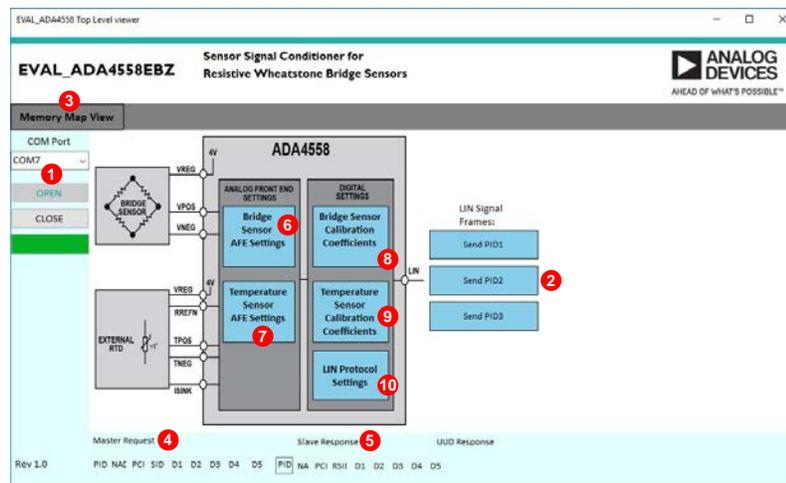

Figure 14. Evaluation Software Main Window
3. Set the **COM Port** setting to match the EVAL-ADA4558EBZ COM port and click **OPEN**. The main window then appears (see Label 1 in Figure 14).
The main window of the software (see Figure 14) shows a block diagram and the wiring of the two input sensors. The ADA4558 block shows an overview of the calibration path where each sensor input channel has calibration settings for its analog front end (AFE) and its digital correction algorithm. The blue buttons within in the ADA4558 block provide a demonstration of the calibration procedure.
The **COM Port** section displays the connection status to the hardware (Label 1 in Figure 14).
The **LIN Signal Frames** buttons allow users to read measurements for the bridge sensor and the temperature sensor (Label 2 in Figure 14).
The **Memory Map View** allows users to read and write to the EEPROM and system registers (Label 3 in Figure 14).
The **Master Request** section displays the LIN header frame or diagnostic request frame for any communication sent from the LIN master to the ADA4558 (Label 4 in Figure 14).
The **Slave Response** section displays the signal frame response or the diagnostic response frame for any communication between the LIN master and the ADA4558 (Label 5 in Figure 14).
The **Bridge Sensor AFE Settings** section demonstrates the AFE calibration procedure for the bridge sensor input (Label 6 in Figure 14).
The **Temperature Sensor AFE Settings** section demonstrates the AFE calibration procedure for the external temperature sensor input (Label 7 in Figure 14).
The **Bridge Sensor Calibration Coefficients** section demonstrates the calibration procedure for the nonlinearity of the digital correction of the bridge sensor with temperature compensation (Label 8 in Figure 14).
The **Temperature Sensor Calibration Coefficients** section demonstrates the digital calibration procedure for the temperature sensor (Label 9 in Figure 14).
The **LIN Protocol Settings** section displays the node address and signal frame IDs used by the application for the LIN frame requests (Label 10 in Figure 14).
The **LIN Signal Frames** buttons (Label 2 in Figure 14) allow users to send LIN requests for measurement. The resulting measurements display as shown in Figure 15 where the value represents a hex number for the measurement ADC code.
The ADA4558 AFE must be calibrated with its bridge sensor connected before taking measurements. This section demonstrates the AFE calibration procedure to generate offset correction trims. The four calculated trims must be saved to the ADA4558 EEPROM. See Label 6 in Figure 14 for the **Bridge Sensor AFE Settings** button.
An external temperature sensor must be calibrated to maximize its ADC range. This section demonstrates the AFE settings to define the gain and current settings for a remote RTD. The selected settings must be written to the ADA4558 EEPROM. See Label 7 in Figure 14 for the **Temperature Sensor AFE Settings** button.
The ADA4558 digital block must be calibrated with its bridge sensor across the temperature and signal range of the sensor. This section demonstrates the coefficient calculation for the nonlinear correction algorithm. The calculated coefficients must be saved to the ADA4558 EEPROM. See Label 8 in Figure 14 for the **Bridge Sensor Calibration Coefficients** button.
1. Click **Temperature Sensor Calibration Coefficients** button (Label 9 in Figure 14).